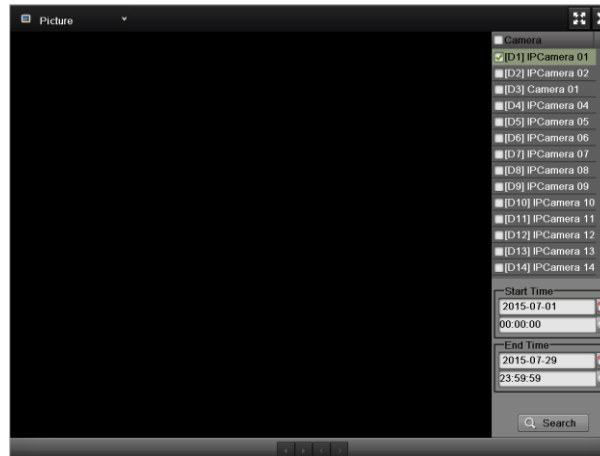

Figure 90 Picture Playback Interface
2. Enter the Picture interface, shown in **Figure 90** by going to Menu > Playback > Picture.